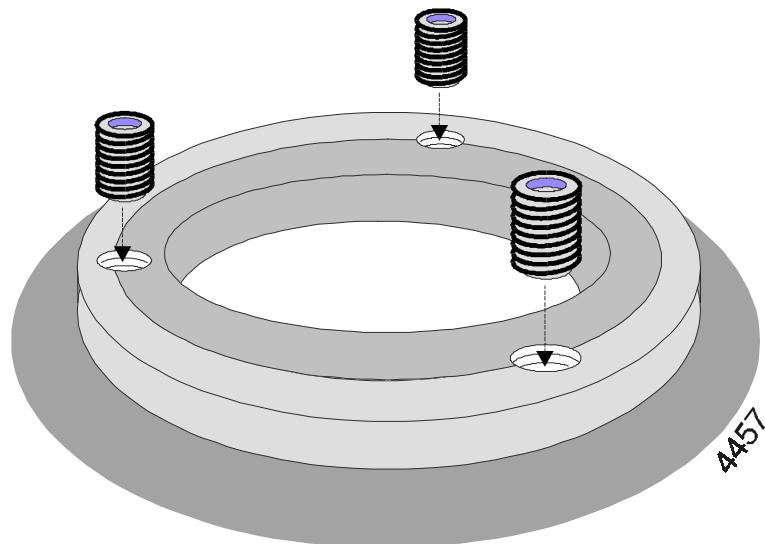

figure 10: Locking the wear rings.
- 4 Both wear rings then have to be secured. Drill 3 holes Ø5 mm, 9 mm deep, right on the seam between impeller and wear ring c.q. pump casing and wear ring. Subsequently cut screw thread M6 (see figure 10).